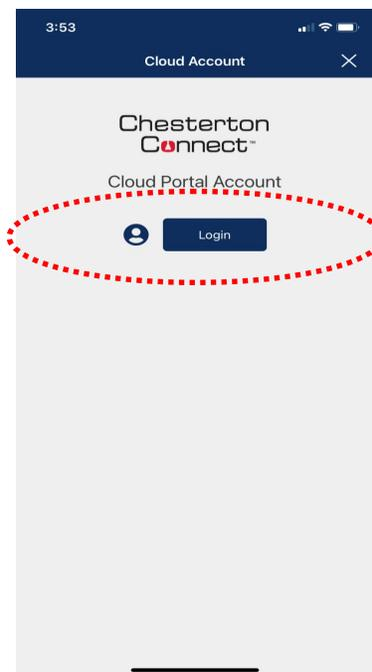

Figure 12
2. Select **Login** (see figure 12).